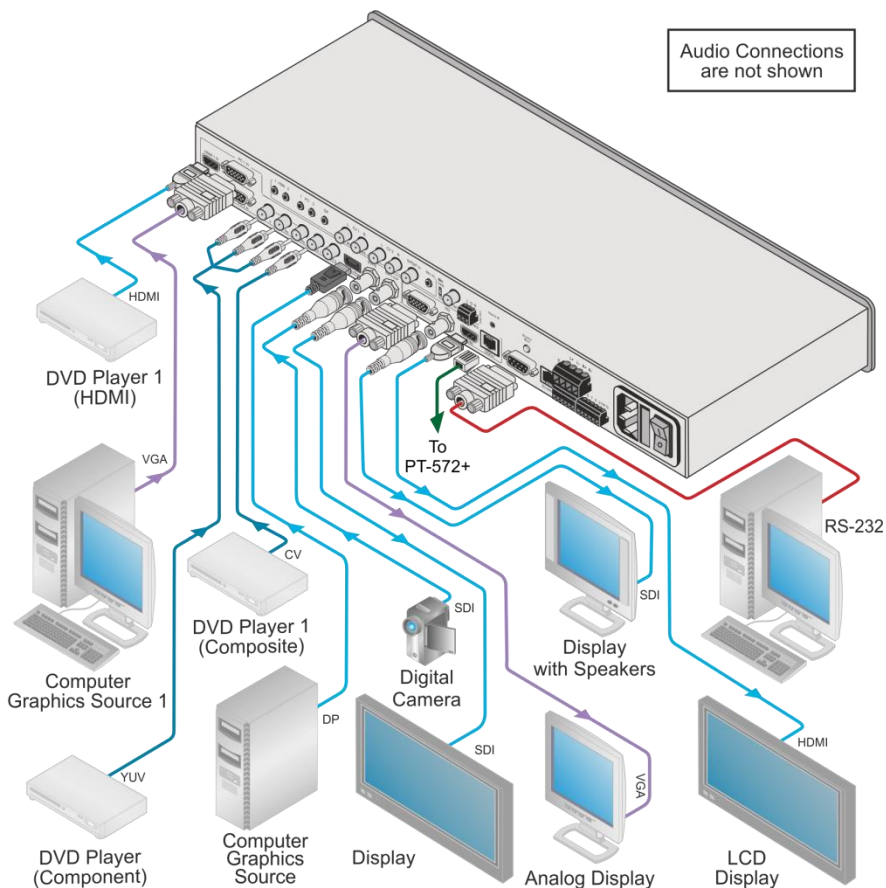

Figure 4: Connecting the VP-771 Presentation Switcher/Scaler
To connect the **VP-771**, as illustrated in the example in Figure 4, do the following:
6. Connect the audio input signals to the AUDIO IN connectors (3.5mm mini jack and RCA connectors), as required (not shown in Figure 4).
13. Connect the SPKR block connector to a pair of loudspeakers, by connecting the left loudspeaker to the “L+” and the “L-” terminal block connectors, and the right loudspeaker to the “R+” and the “R-” terminal block connectors. **Do not Ground the loudspeakers** (not shown in Figure 4).
15. Connect the power cord (not shown in Figure 4).